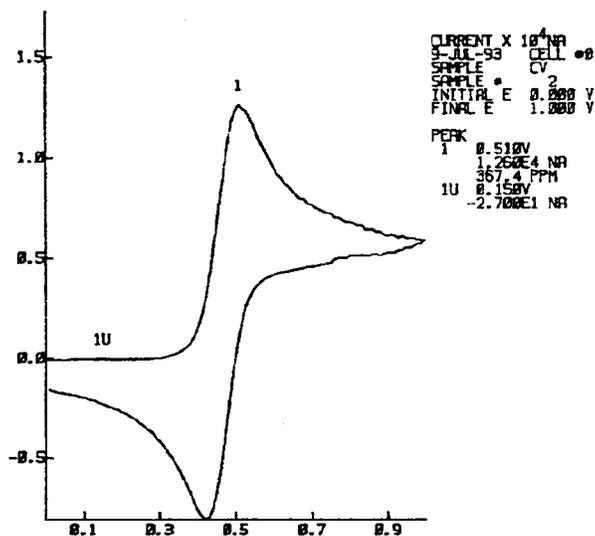

Figure 5. PLAYBACK OF SAMPLE
- When ready, press **PLAYBACK**. The resultant playback recording of the sample data will be complete with the computed concentration (367.4 ppm in example). The recording should be similar to that depicted in Figure 5. Note that, at this concentration, a small impurity at 0.150 V is evident. This doesn't interfere with the Ferrocene analysis. The calculated concentration of our peak is 372 ppm with the actual value recorded from the analysis being 367.4 ppm.